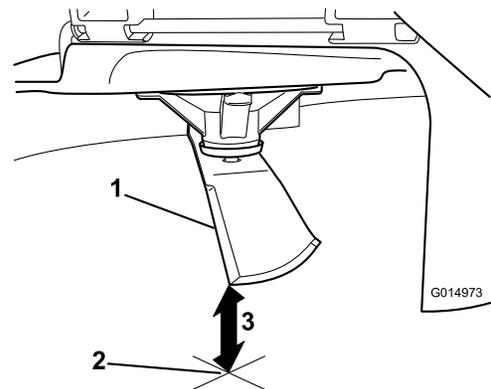

**Figure 105**
3. Measured distance between blade and the surface (A)
4. Rotate the same blade 180 degrees so that the opposing cutting edge is now in the same position (Figure 105).